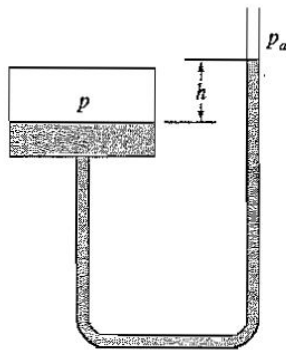

Figure P2.9
2.9 The gauge pressure at the liquid surface in the closed tank shown in Figure P2.9 is 4.0 psi . Find h if the liquid in the tank is